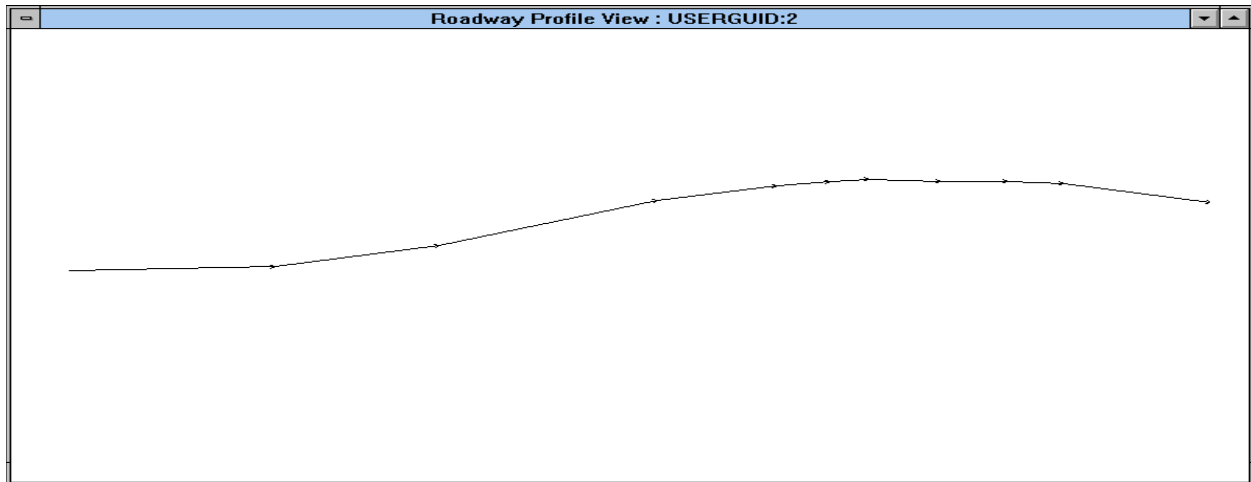

Figure 10. Roadway profile view.
6.1.2 Roadway Profile. A roadway profile displays an elevation view of a user-selected roadway (see Figure 10). You must pre-select the desired roadway in the Plan View. This menu option is unavailable until you have done so. TNM provides several ways to manipulate the view, i.e., by zooming, panning, and rotating (see Section 6.3 through 6.7).